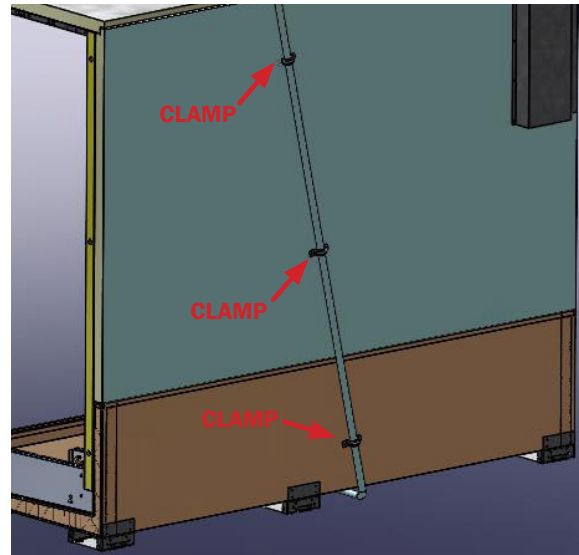

Fig. 33 Tubing clamps
7. Now fix 3 of the tubing clamps provided in the package at equal intervals at the rear of the case. While fitting the clamps ensure there is sufficient slack in the tubing of the assembly to prevent any form of tension or breakage at the drain adapter (Fig. 33).